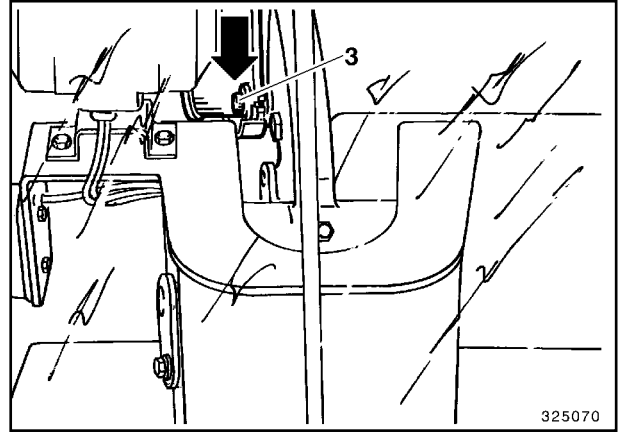

Fig. 6
Raise bucket slightly (transport position). When pin (3, Fig. 6) is properly locked, pins (3) are visible at the outer edges (arrow). If the pins (3) are not visible, set bucket carefully on the ground and repeat the attaching procedure.